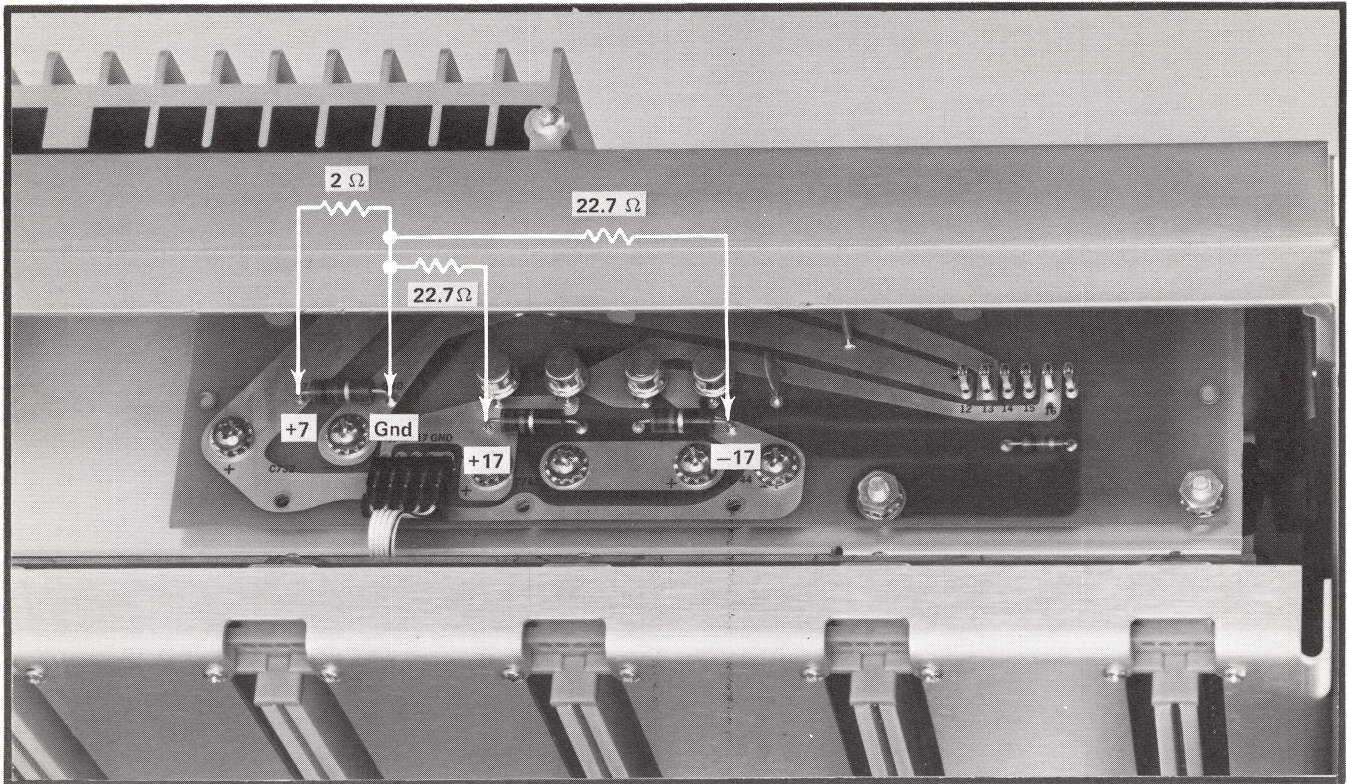

Fig. 5-1. +7, +17 and -17-volt points on Rectifier-Capacitor Board.
5. Connect the load resistors to the +7 V, +17 V, and -17 V points as detailed in Fig. 5-1.